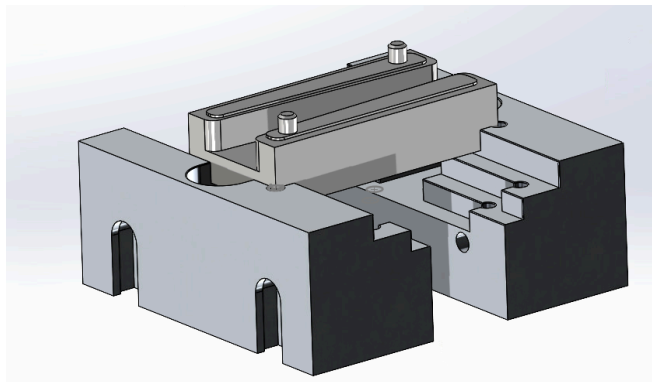

Figure 2: Component Assembly Using Mates
- Using the Mate option, you can align and assemble two or more components by applying appropriate mating constraints. The assembled bed along with the body is shown in figure 2.